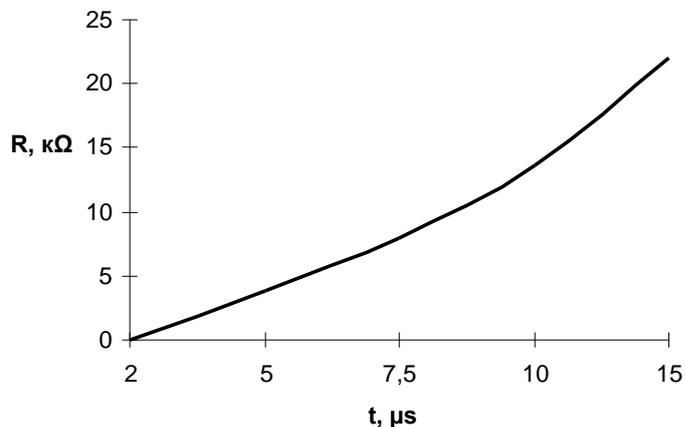

Figure 10 – “Dead time” duration versus trimming resistor  $R_{TD}$  nominal
**Resistor Rtd1, Rtd2** – timing resistor of switching delay setting of the first and second channel. Actually resistors regulate turn-on delay time thereby when you install the resistors with different nominal the rise time switching delay of controlled pulses of the first and second channel will be different. If there is no need to increase of switching delay time then you should install the jumpers instead of resistors. The dependence of delay time on resistor nominal is shown at Figure 10. Initially resistors with nominal 1  $\Omega$  are installed that corresponds to min. “dead time” (2  $\mu$ s).
- set up “dead time” by Rtd resistors in compliance with the Figure 10;